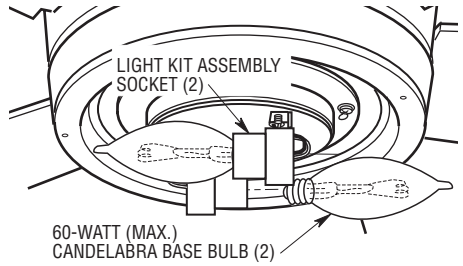

Figure 16
- 6. Screw in two 60-watt (maximum) candelabra base bulbs (supplied) in the light kit assembly sockets (Figure 16).